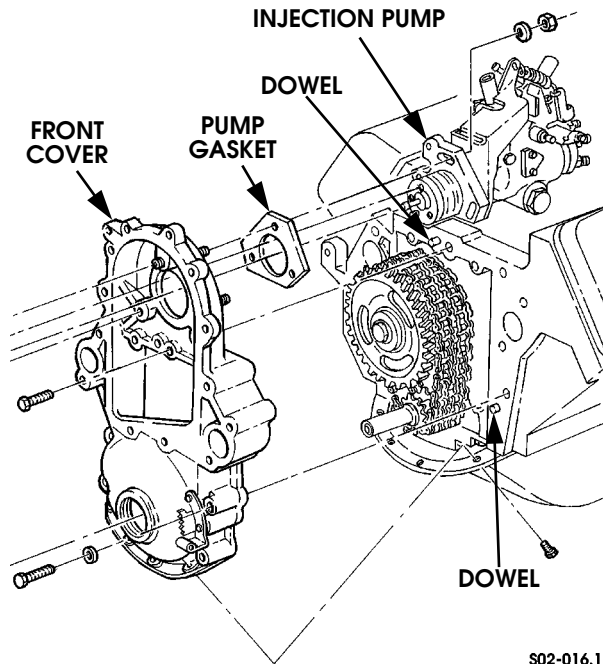

Figure 2-30: Front Cover Mounting
8. Install front cover on engine block (Figure 2-30). Be sure cover is fully seated on engine block dowels, engine block, and oil pan, before installing cover bolts.
10. Install injection pump gasket on front cover studs (Figure 2-30:).